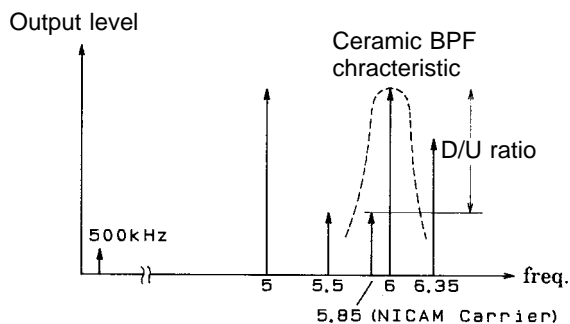

Figure 10 (5.5 MHz input)
- Pin 5 is the output pin. The output from Pin 5 is input to the SIF via a 6 MHz bandpass filter (BPF). When 5.5 MHz is input to Pin 1, the spectrum shown in Figure 10 is obtained at Pin 5. Even if there is a 5.85 MHz NICAM signal, the D/U (desirable/undesirable) ratio at Pin 5 increases and the buzz characteristic does not deteriorate.